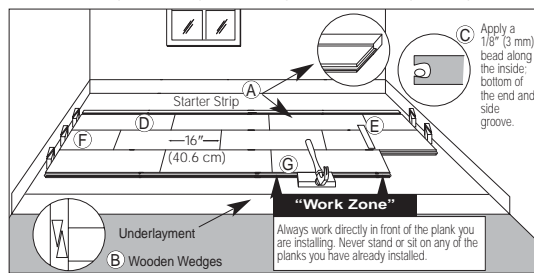

Figure 12
- Select the first board. All installations should begin with the groove side against the wall using the longest boards available. Apply a continuous 1/8" (3 mm) glue bead to the inside bottom of the groove on the end of the board. Do not apply glue to the groove side at this time (Item C, Figure 12). Products with the end tongue on the left should be installed right to left, opposite tongues should be left to right. (Item D, Figure 12). If a sacrificial board was used DO NOT glue the first row to it.
- Complete the first row. Cut the last board allowing for 1/2" (13 mm) clearance between the wall and the floor. (Use the remaining end of the cut board as a starter board for any row following row three). Install a wedge on the end of the board between the hardwood flooring and the wall allowing 1/2" (13 mm) expansion space. Avoid installation of any boards shorter than 16" (40.6 cm) in the first four rows. (Item F, Figure 12).
- Use a pull bar to pull the last board into place from the opposite end. Install wedges into the gap and tighten (Item B, Figure 12)
- Cut or use a shorter board for the first board of the second row. Start the second row by applying a 1/8" (3 mm) bead along the inside, bottom of the end and side groove of the new board. Install the first board of row two. Apply a bead of glue to the inside bottom of the end and side groove of the next board and install. When installing boards together, use a tapping block against the tongue, not the groove (Item G, Figure 12). Tap the boards into place by tapping with a hammer on the tapping block. DO NOT tap on the edge directly with the hammer. Complete the second through fourth rows using this technique. Insert wedges on the ends, as necessary, to restrain the movement of the floor.